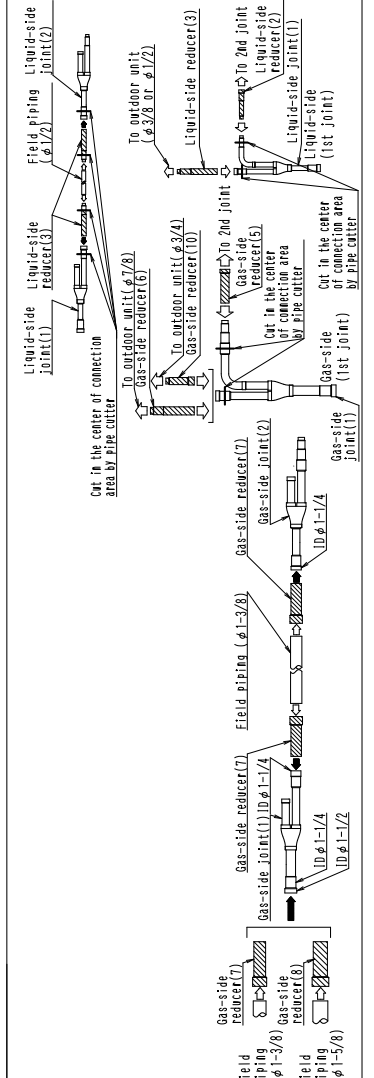

Fig. 3
- Make sure the field piping more than 4-3/4" is set for the 19-5/8" top outlet of the field piping within this range. (See Fig. 3)